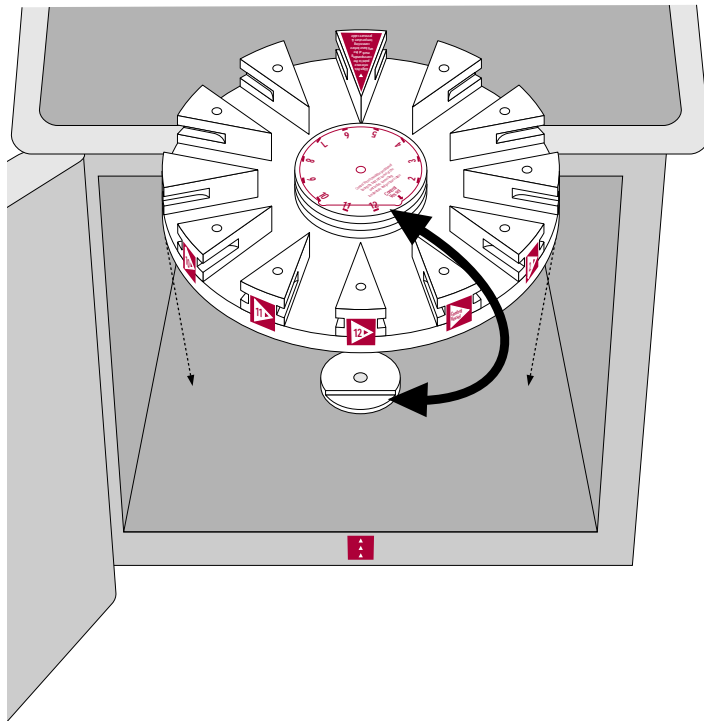

Figure 9. Turntable Installation on Turntable Lug
2. Install the turntable into the instrument, ensuring that the flat edge on the bottom of the turntable corresponds with the flat edge of the turntable lug (figure 9, page 45). **Note:** If using Plus vessels, the vessels can be installed into the turntable prior to turntable installation into the instrument cavity.